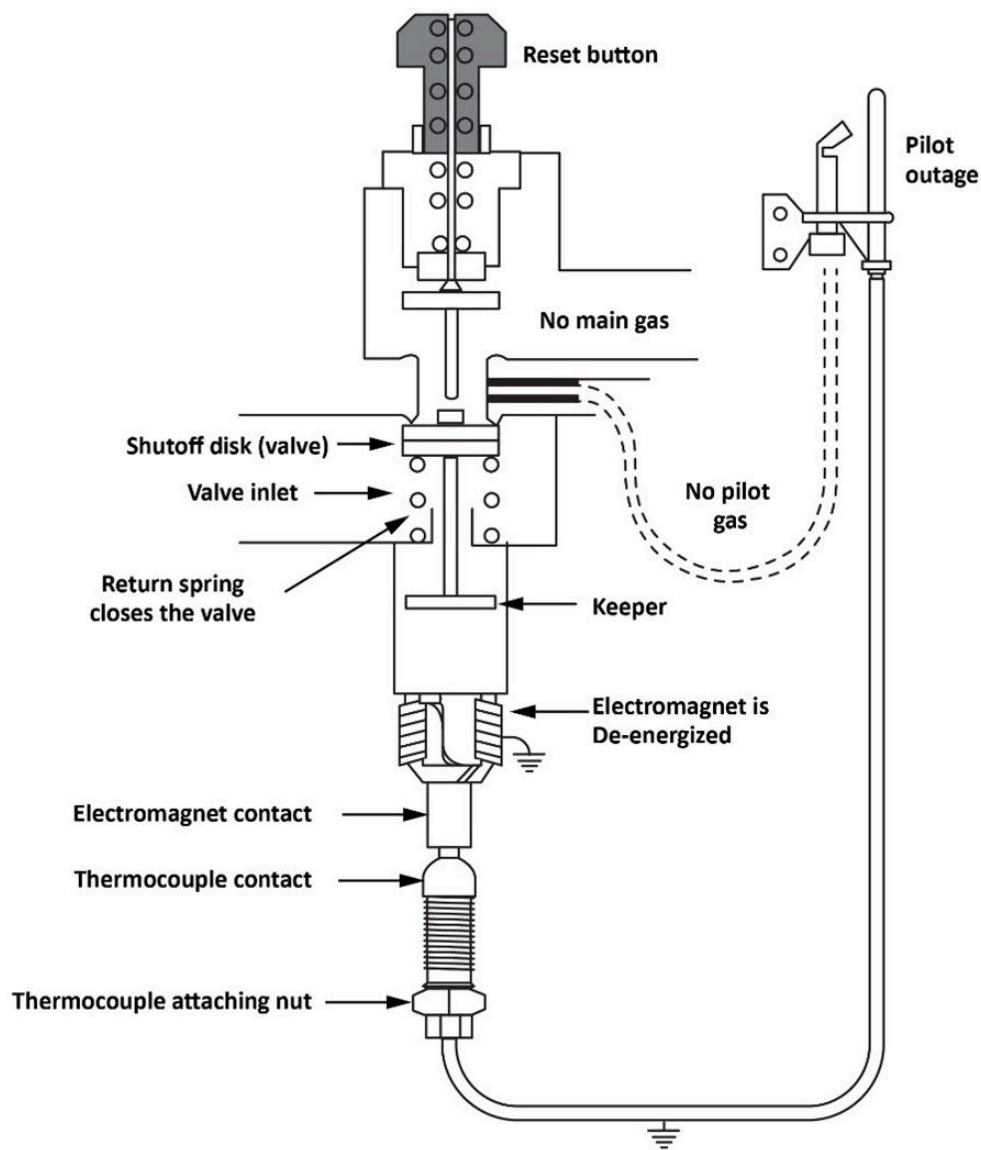

Figure 1 Thermocouple safety shut-off valve system, (closed position)
- Figure 1 “Thermocouple hot and cold junctions” by Camosun College is licensed under a CC BY 4.0 licence (<https://creativecommons.org/licenses/by/4.0/>).
A safety shut-off valve can only be used where there is a constant pilot supervised by a thermocouple or thermopile. The safety shut-off valve is also referred to as a Pilotstat, as it thermally monitors the pilot flame. The safety shut-off valve is controlled by an internal electromagnet (solenoid) which is powered by the energy produced by the thermocouple being heated by the pilot flame. As long as the pilot is lit, the thermocouple supplies enough voltage to energize the safety shut-off valve. If the pilot light blows out, the thermocouple begins to cool and the current flow through the coil of the electromagnet weakens. This causes the magnetic field to weaken to the point where the spring force overcomes the electromagnetic force and the solenoid releases the keeper plate (Figure 1), and the valve snaps closed stopping the flow of gas.
In 100% safe systems, the valve shuts off the gas to both the main burner and the pilot light. Non-100% safe systems only shut off gas to the main burner. The safety shut-off valve is often one component within a combination gas valve. Figure 2 shows the thermocouple connected to the safety shutoff valve, that has been removed and placed in front of the appliance combination gas valve. The gas enters at the connection on the left therefore the safety shut-off valve is the first internal component, that the gas must flow through, within this combined gas valve. Since the closing of the Safety shut-off valve would stop the flow to both the pilot and main burners (Figure 1), this is referred to as a 100% safe system.